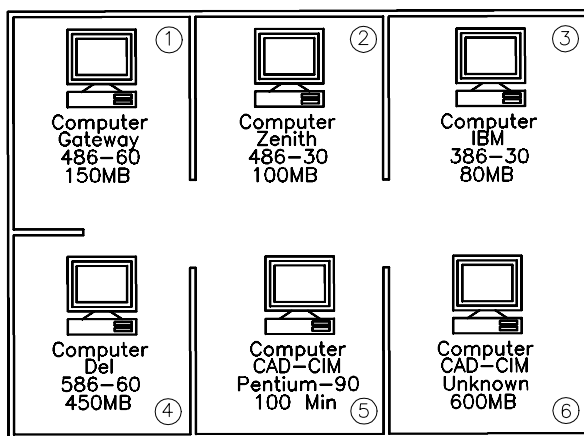

Figure 17-12 The floor plan after inserting blocks and defining their attributes
3. Repeat the **INSERT** command to insert other blocks, and define their attribute values, as shown in Figure 17-12.